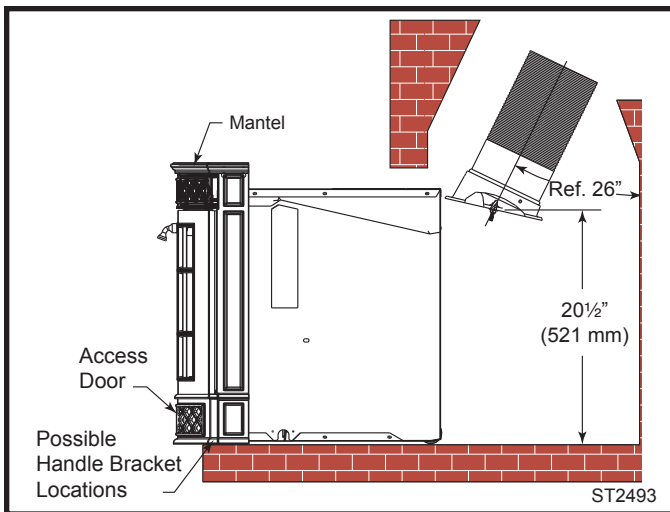

Fig. 7 Measured height from the finished hearth surface to the center bar of the flue collar.
- Install the connector pipe or liner so that the height measured from the finished hearth surface to the center bar of the flue collar is 20½" (521 mm). (Fig. 7) This will allow an easy connection once the stove is rolled into place.
- 10.** Install the supplied handle storage bracket by simply sliding the flat end under the right or left side of the stove. (Fig. 7)